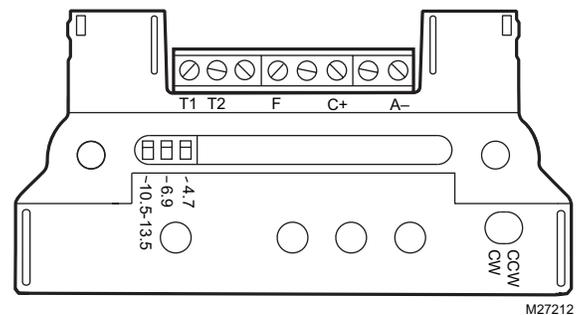

Fig. 2. Q7130A terminals and adjustments.
6. Connect field wiring to screw terminals on terminal block. See Fig. 2, 4, and 8 for terminal designations. Trim wire ends neatly and tin with solder.
### Q7130A Adjustments (Fig. 2)